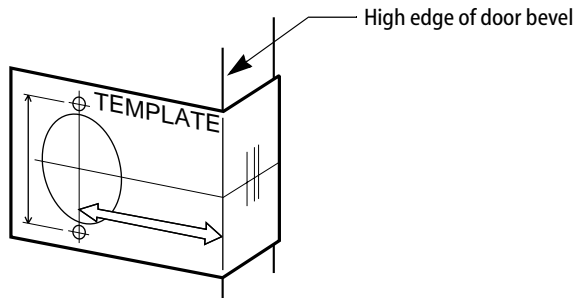

Figure 2—Positioning the template
- 1 Fold the template and place in position on the high edge of the door bevel (see Figure 2).